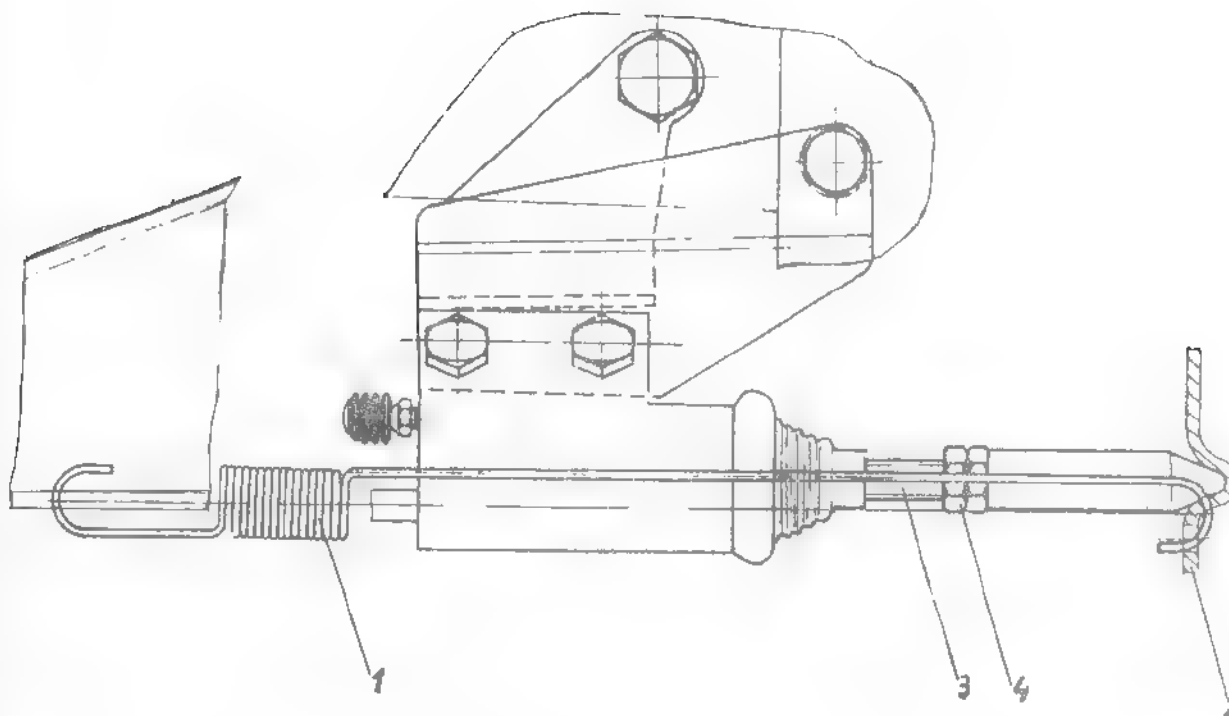

Fig.2.37. CLUTCH CONTROL MECHANISM
- Having access from the car bottom side, performe bleeding hydraulic clutch control system (see fig. 2.37), in the same manner as on changing fluid in the brake control system, according to Op. 2.0.35.04.1.
ARO L-25 ENGINE (see fig.2.37)